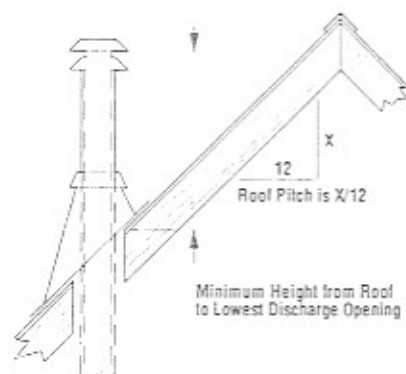

Figure 17
**Gas Vent Rule** – Gas vent caps that are located 8' or more from a portion of a building which extends at an angle greater than 45° upward from the horizontal may terminate in accordance with Table 1 (Figure 17), provided that in no case shall any discharge opening on the cap be less than 2' (610 mm) horizontally from the roof surface.